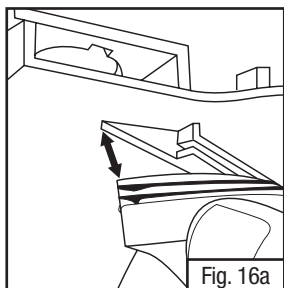
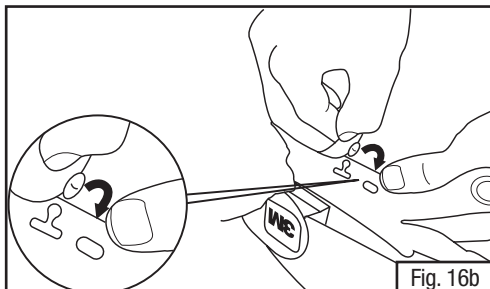

Fig. 16a
Fig. 16b
- To install forehead seal, grasp the black gasket and align with headgear according to Fig. 16a. **NOTE:** The “shiny” side of the seal should be facing towards you (i.e. outwards) as you install the seal. Press the gasket firmly into the groove in small sections. Both gasket ribs should be fully inserted into the groove. Grasp fabric tab with button and fold over to inside of suspension. Attach forehead seal button to head suspension (Fig. 16b).